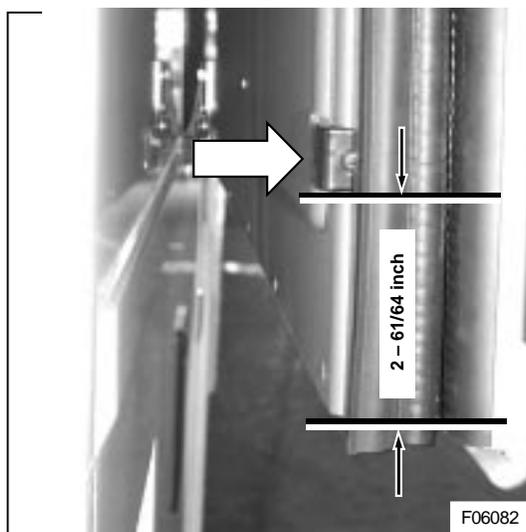

Figure 23: Proximity switch trigger installation
- 3) Install proximity switch reflector VH 10779497 as shown in Figure 23. Distance from the door bottom channel to the reflector: 2-61/64 inch (75 mm). Secure with a self-tapping screw.